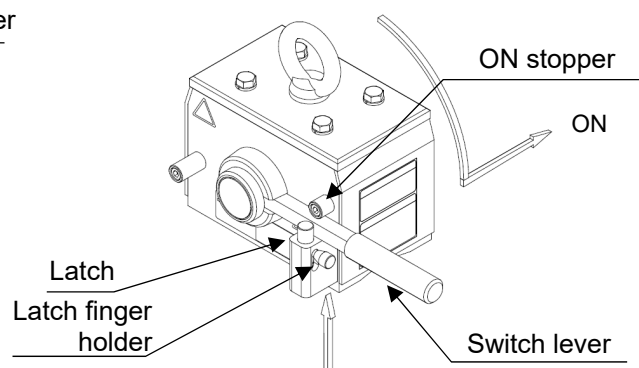

Figure 10-2 KRD30, KRD50, KRD80, KRD100, KRD160
- (5)-2 Refer to Figure 10-2 for KRD30, KRD50, KRD80, KRD100, and KRD160.